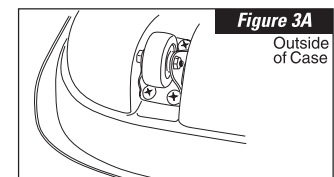

Figure 3A
3. Align each caster with the holes drilled in step 2, and attach to box tray as indicated in **Figure 3A** and **3B**. With a Phillips screwdriver and 11mm (7/16") or adjustable wrench, tighten the nuts securely.